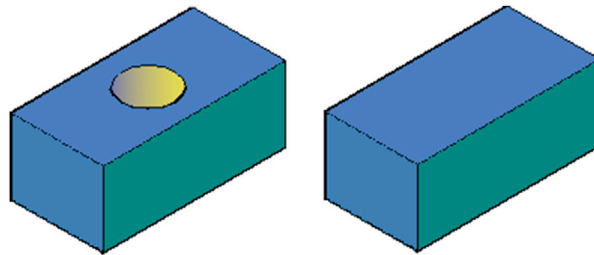

FIGURE 25.15 Delete faces (hole).
Delete faces is probably the easiest of the face commands to start with. It is meant to be used to delete full features, such as an extruded cylinder (hole), not surfaces. To try it out, draw a random size block with a hole in it, as seen in Fig. 25.15.
Step 4. The hole is removed, as seen in Fig. 25.15. Press Esc to return to the command line.